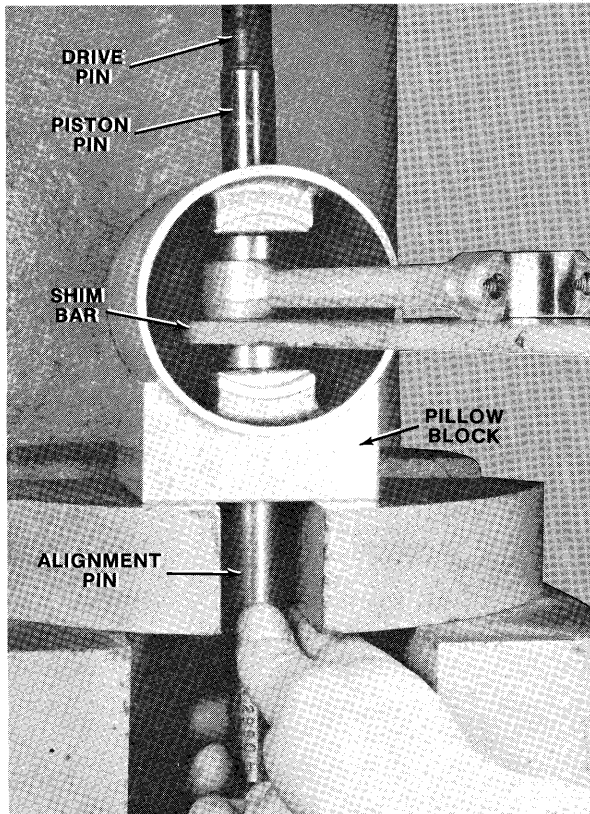

Figure 16—Installing Piston Pin
- H. Place above assembly on pillow block. Install piston pin on bore of piston. Install driver pin with stepped end in end of piston pin. Press piston pin in bore of piston while holding alignment tool as shown in figure 16. Press piston pin until it is centered in piston.